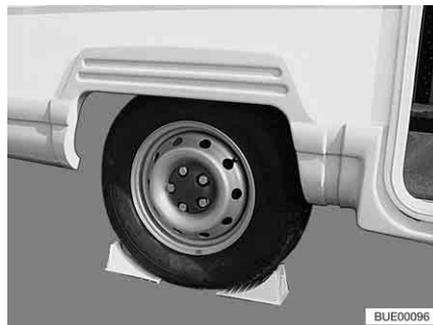

Fig. 210 Securing vehicle
- Place wheel chocks or other appropriate objects beneath the opposite wheel of the vehicle to secure it (Fig. 210).